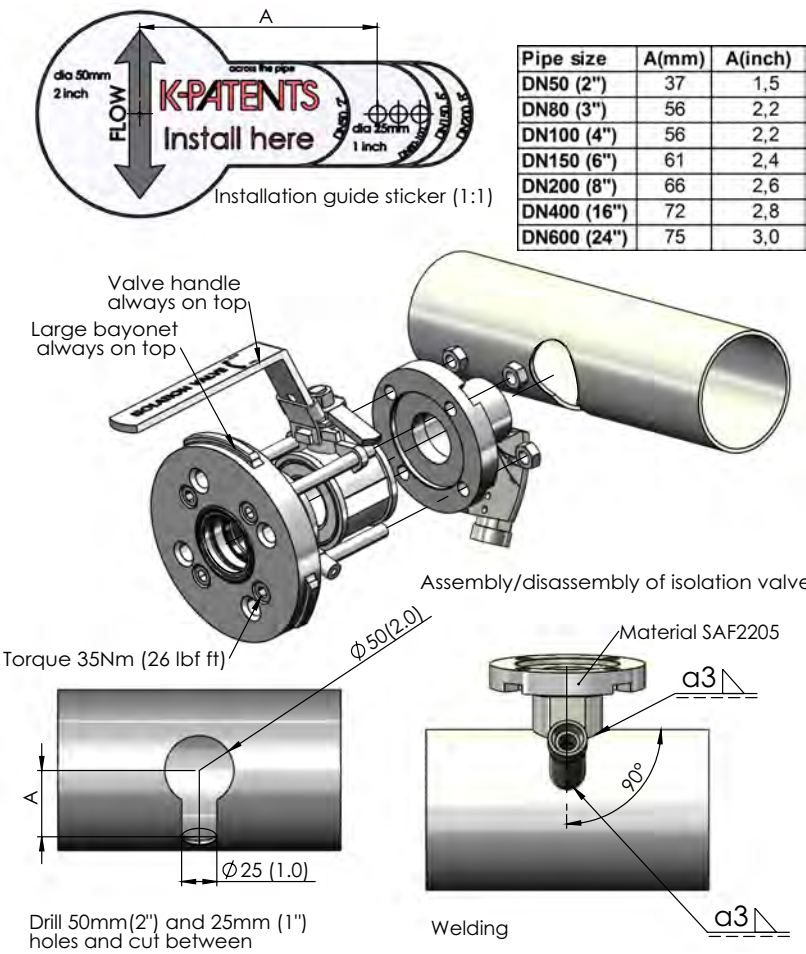

Figure 11.7 Welding the Safe-Drive™ isolation valve to a horizontal pipe
Welding steps (see Figure 11.7 or Figure 11.8):
4. Weld the isolation valve according to MTG472 or MTG2149 (Figure 11.7 or Figure 11.8)